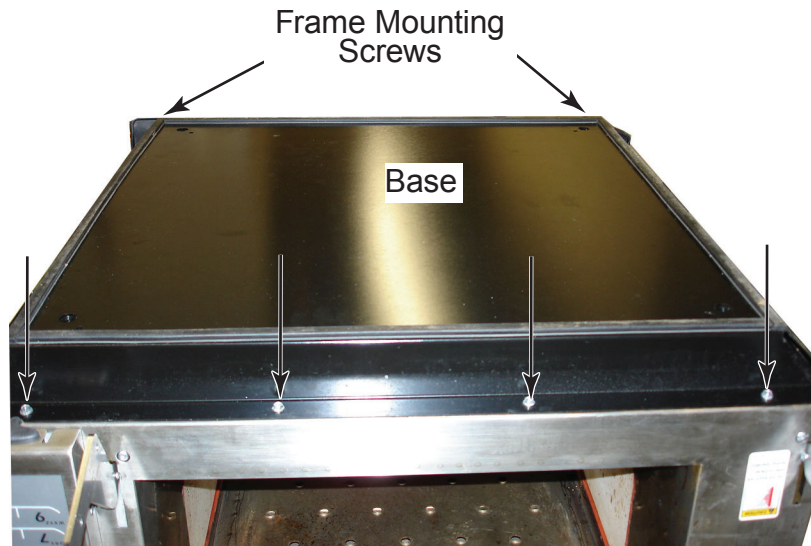

Figure 14
- Remove 4 screws from front of the base - see figure 14.
- f) Tighten screws on LH & RH support frames - see figure 14.